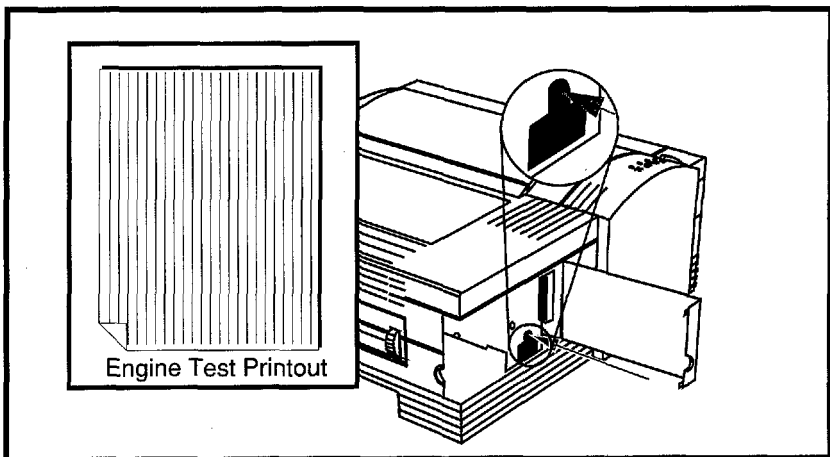

Figure 7-4 Engine Test Button and Printout, LaserJet 4L/4ML
On the LaserJet 4L/4ML, the engine test button is accessible **without removing the covers**, through the I/O Door area on the left side of the printer. To print an engine test, use a long object (such as a pencil) to press the engine test button (see Figure 7-4). (**Do not use a metal object.**) A single test page is printed.
- Exert downward pressure on the the toner cartridge (through the light-blocking paper) while pressing the Engine Test button SW301 . Use a pencil or other non-metallic object to reach through the access hole in the Gear Train plate (similar to that shown in Figure 7-4).